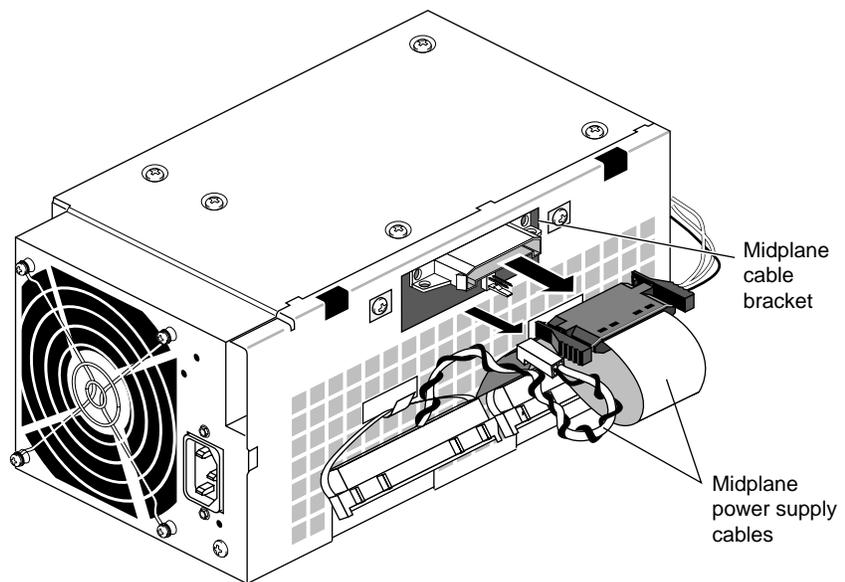

Figure 2-15 Disconnecting the Terminated Midplane Power Supply Cables
- Pinch together the corrugated edges on the ribbon cable connector, and disconnect it from the terminating bracket. See Figure 2-15.